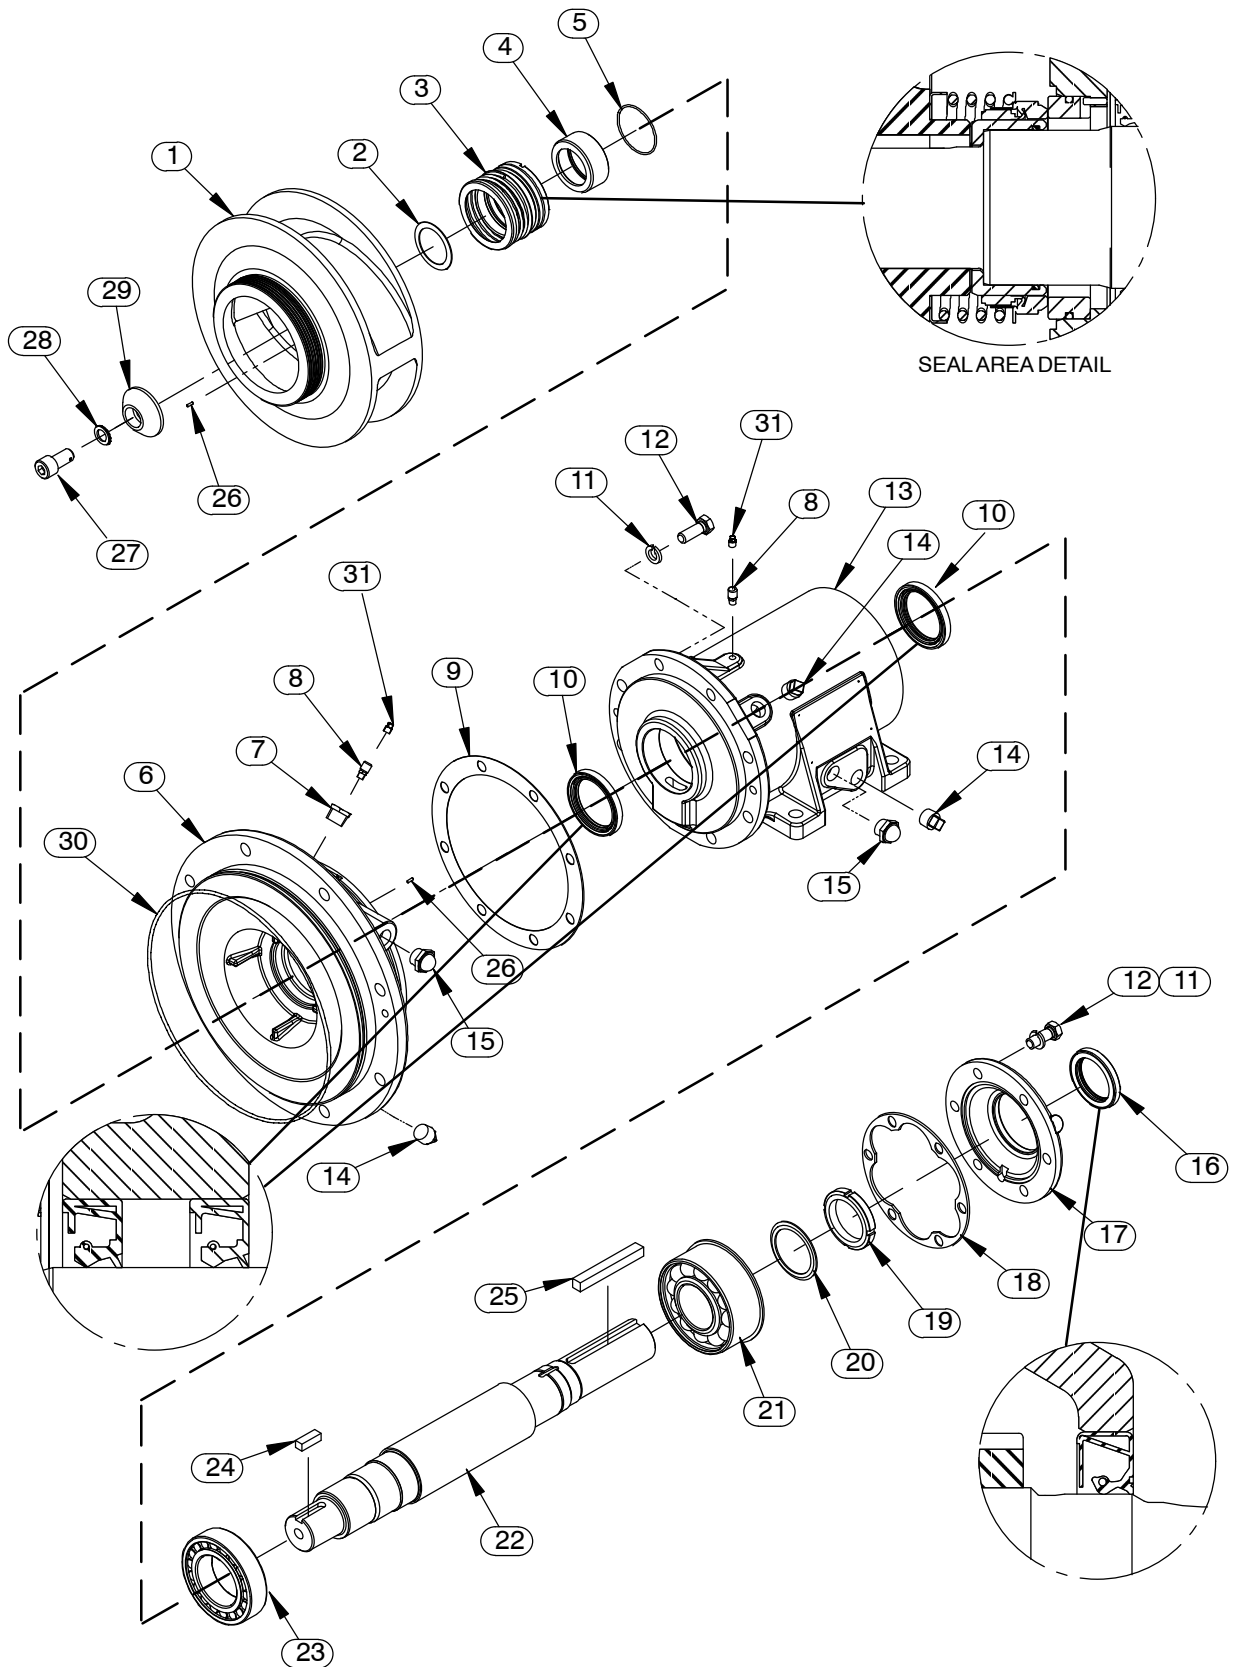

Figure 2. Repair Rotating Assembly
(Figure 2)
(Figures 2 and 3)
Further disassembly requires separating the rotating assembly from the power source. Remove the coupling securing the rotating assembly to the power source and remove the key (25, Figure 2).